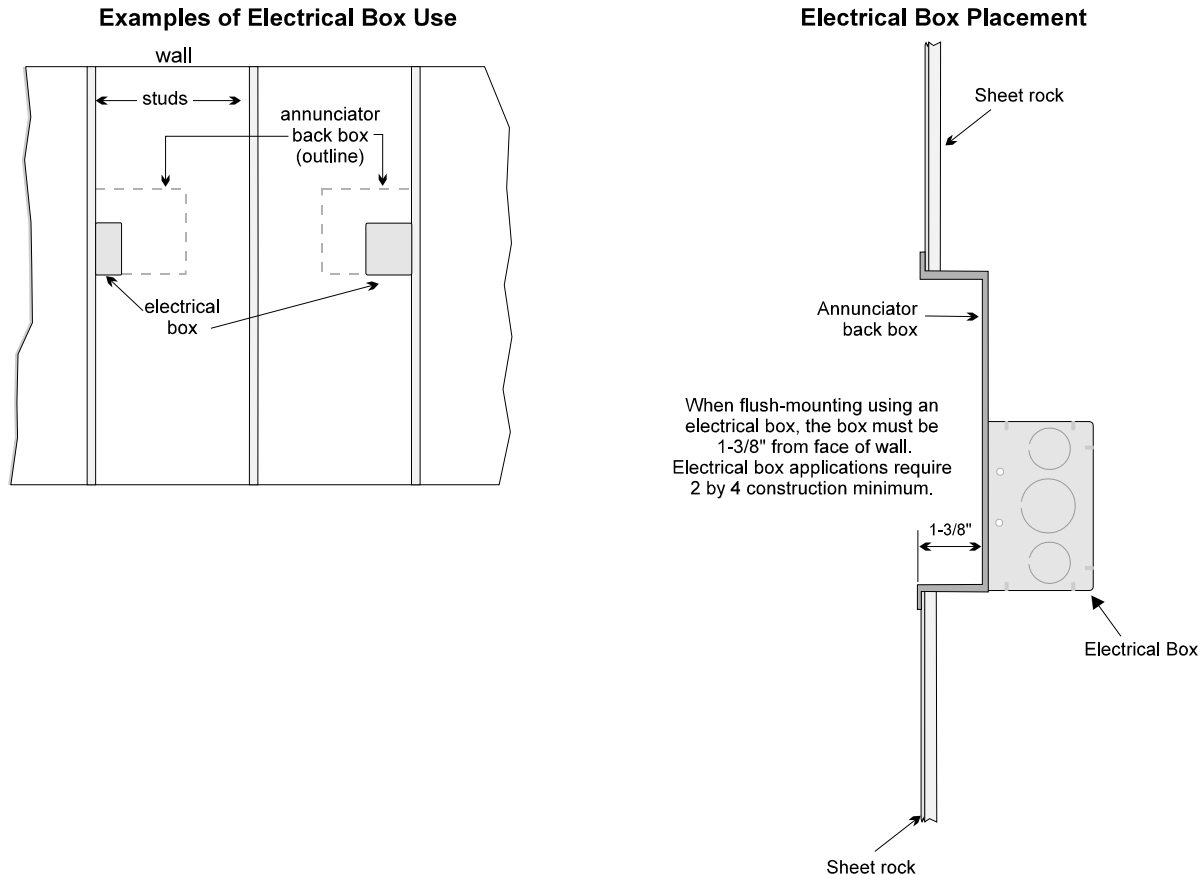

Figure 4-17 Placement of Electrical Box for Flush Mounting
1. Cut a hole in the sheet rock to the following dimensions: 8-1/4" w x 6-5/8" h. If an electrical box is used, the box must be 1-3/8" back from face of wall to accommodate the annunciator (see Figure 4-17).